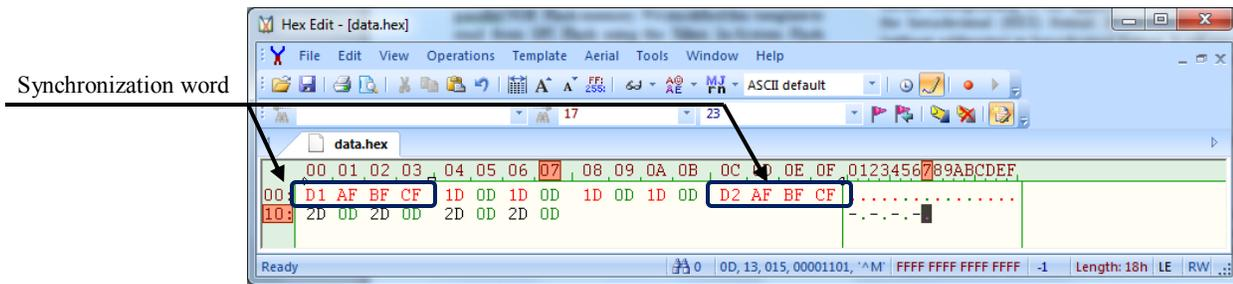

Fig. 8. The data.hex file.
We used a hex editor (the shareware HexEdit [10]) to populate the `data.hex` file with respect for the following specific requirements as shown in figure 8:
- Put synchronization word (4Bytes) at the start of each user data block. In the example of figure 8, we used the synchronization word 0xD1AFBFCF for the first user data block and 0XD2AFBFCF for the second.